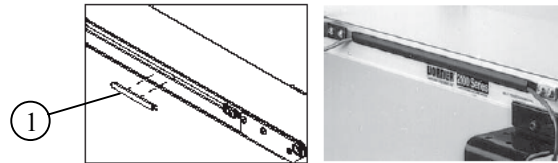

Figure 14
1. To contain a long run of wiring cable in the conveyor t-slot, use several short lengths of t-slot strip closures (Figure 14, item 1).